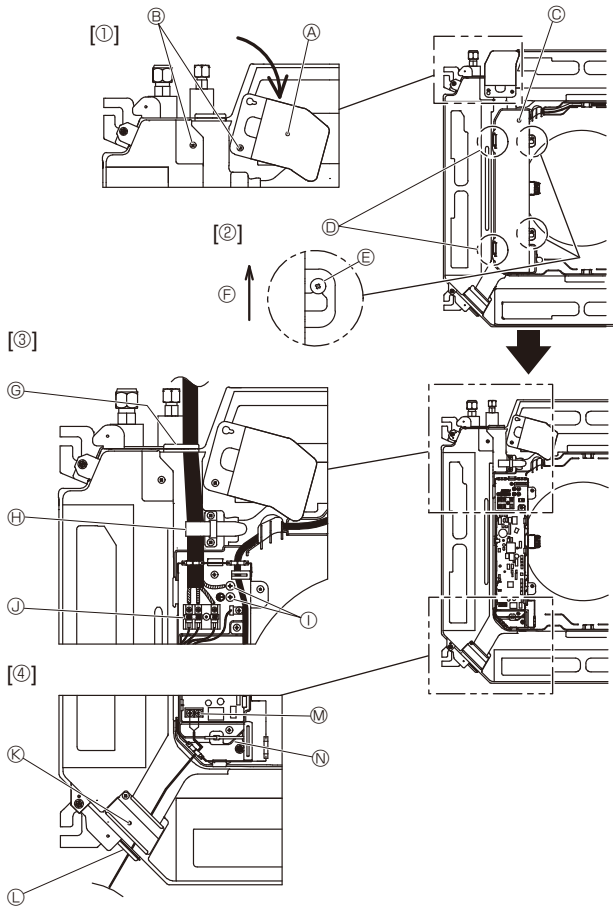

Fig. 6-1
6.1. Indoor unit (Fig. 6-1)
- Loosen the two screws securing the electrical wiring service panel, and then turn the electrical wiring service panel. [Fig. 6-1 ①]
- Loosen the two screws securing the electrical box cover, then slide the electrical box cover. [Fig. 6-1 ②]
- Pass the power cable, indoor/outdoor unit connecting cable and earth cable through the wiring entries given in the diagram. [Fig. 6-1 ③]
- Pass and wire the remote controller cable through the wiring entries given in the diagram. [Fig. 6-1 ④, Fig. 6-3]